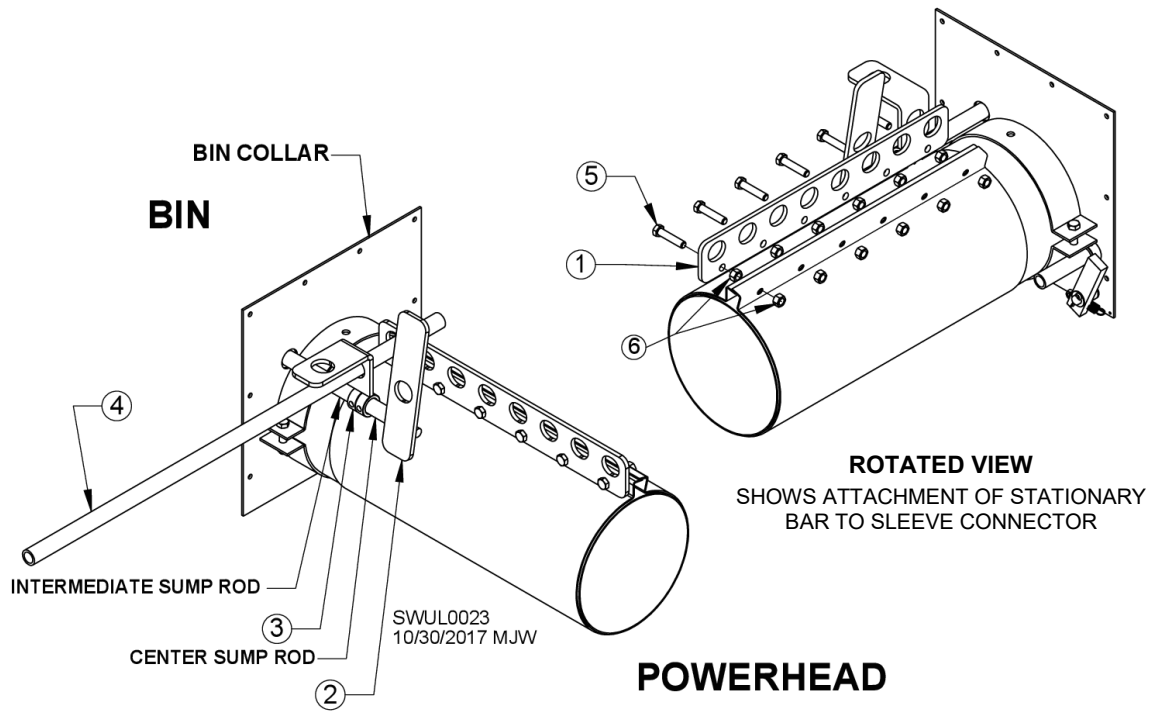

Fig. 39 & Table 13
1. With sumps fully closed, attach center sump opener "L" handle (2) to center sump pull rod using setscrews in shaft collars, and attach intermediate sump opener "L" handle (3) to intermediate sump pull rod using setscrews in shaft collars.
2. Attach stationary bar (1) to connector sleeve using 3/8" bolts (5) and two rows of 3/8" nuts (6) as shown in Fig. 39.
3. Slide connector sleeve as needed to line up innermost hole in stationary bar with hole in intermediate sump opener "L" handle (3). Tighten hardware.